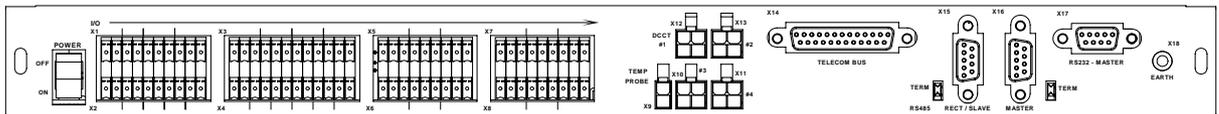
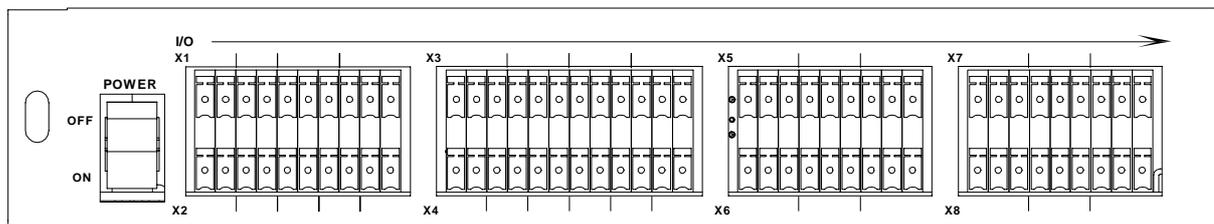
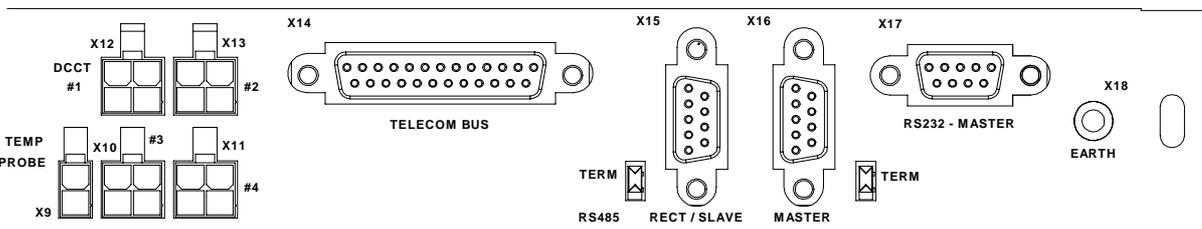

Figure 2-1 Rear of Unit
Figure 2-2 Rear Left of Unit
Figure 2-3 Rear Right of unit
Connections are made at the rear of the unit (see Figure 2-1, Figure 2-2 and Figure 2-3). A label on top of the unit explains connection with space provided for user notes. Details of connection points are given in Figures 2-2 and 2-3. Attachment C shows SELV and TNV barriers.
**NOTE:** *To maintain proper EMC compliance, data cables (connected to X15 "Rect/Slave" and X17 "RS232 Master" as shown in Figure 2-3) should be fitted with EMC ferrites (Fair-rite 0443167251 or similar) close to the AZ328 rear panel. Fasten to the cable using cable tie supplied. **Two ferrites are supplied with each AZ328.***